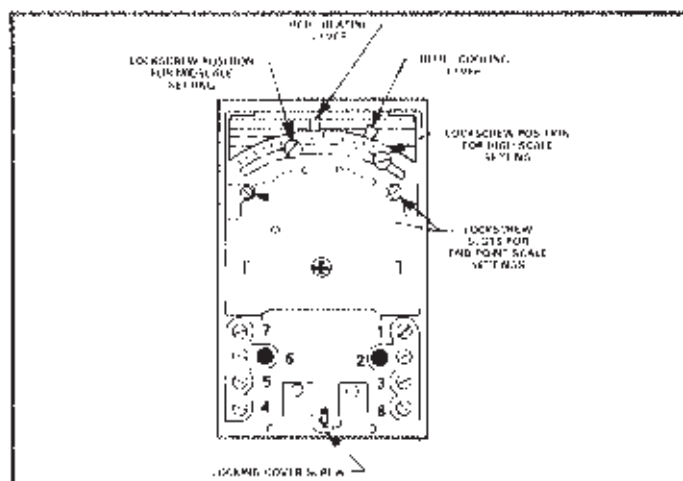

FIGURE 34
- 1 - Remove cover from room sensor. Connect voltmeter to terminals 3 (-) and 4 (+). See Figure 34.
5 - Table 3 lists the voltage ranges that reflect conditions at room sensor. Refer to Figure 34 for meter connections.